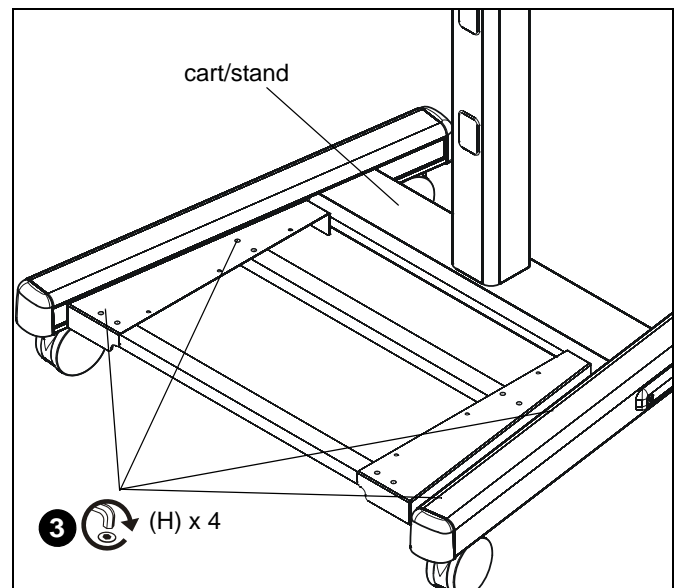

Figure 3
2. Place support plate inside legs of cart/stand. (See Figure 3)
3. Thread four 5/16-18 x 1" button head cap screws (H) from Step 1 further into cart/stand until base support is secured to cart/stand. (See Figure 3)